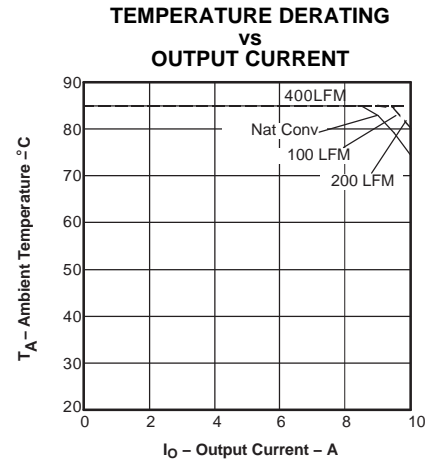

Figure 4.
- (2) SOA graphs represent the conditions at which internal components are at or below the manufacturer's maximum operating temperatures. Derating limits apply to modules soldered directly to a 4 in. x 4 in., double-sided PCB with 1 oz copper. For surface mount products (AS and AZ suffix), multiple vias (plated through holes) are required to add thermal paths around the power pins. Please refer to the mechanical specification for more information. Applies to Figure 4.
- (3) The peak-to-peak output ripple voltage is measure with an external 10 μF ceramic capacitor on the output.